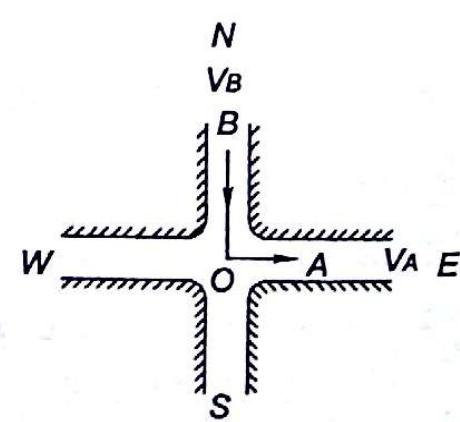

Fig. 12.18
12.1 A car A moves with velocity 10 m/s towards east. Another car B moves towards south with velocity of 10 m/s. What is the relative velocity of A with respect to the velocity of B (Fig. 12.18)?